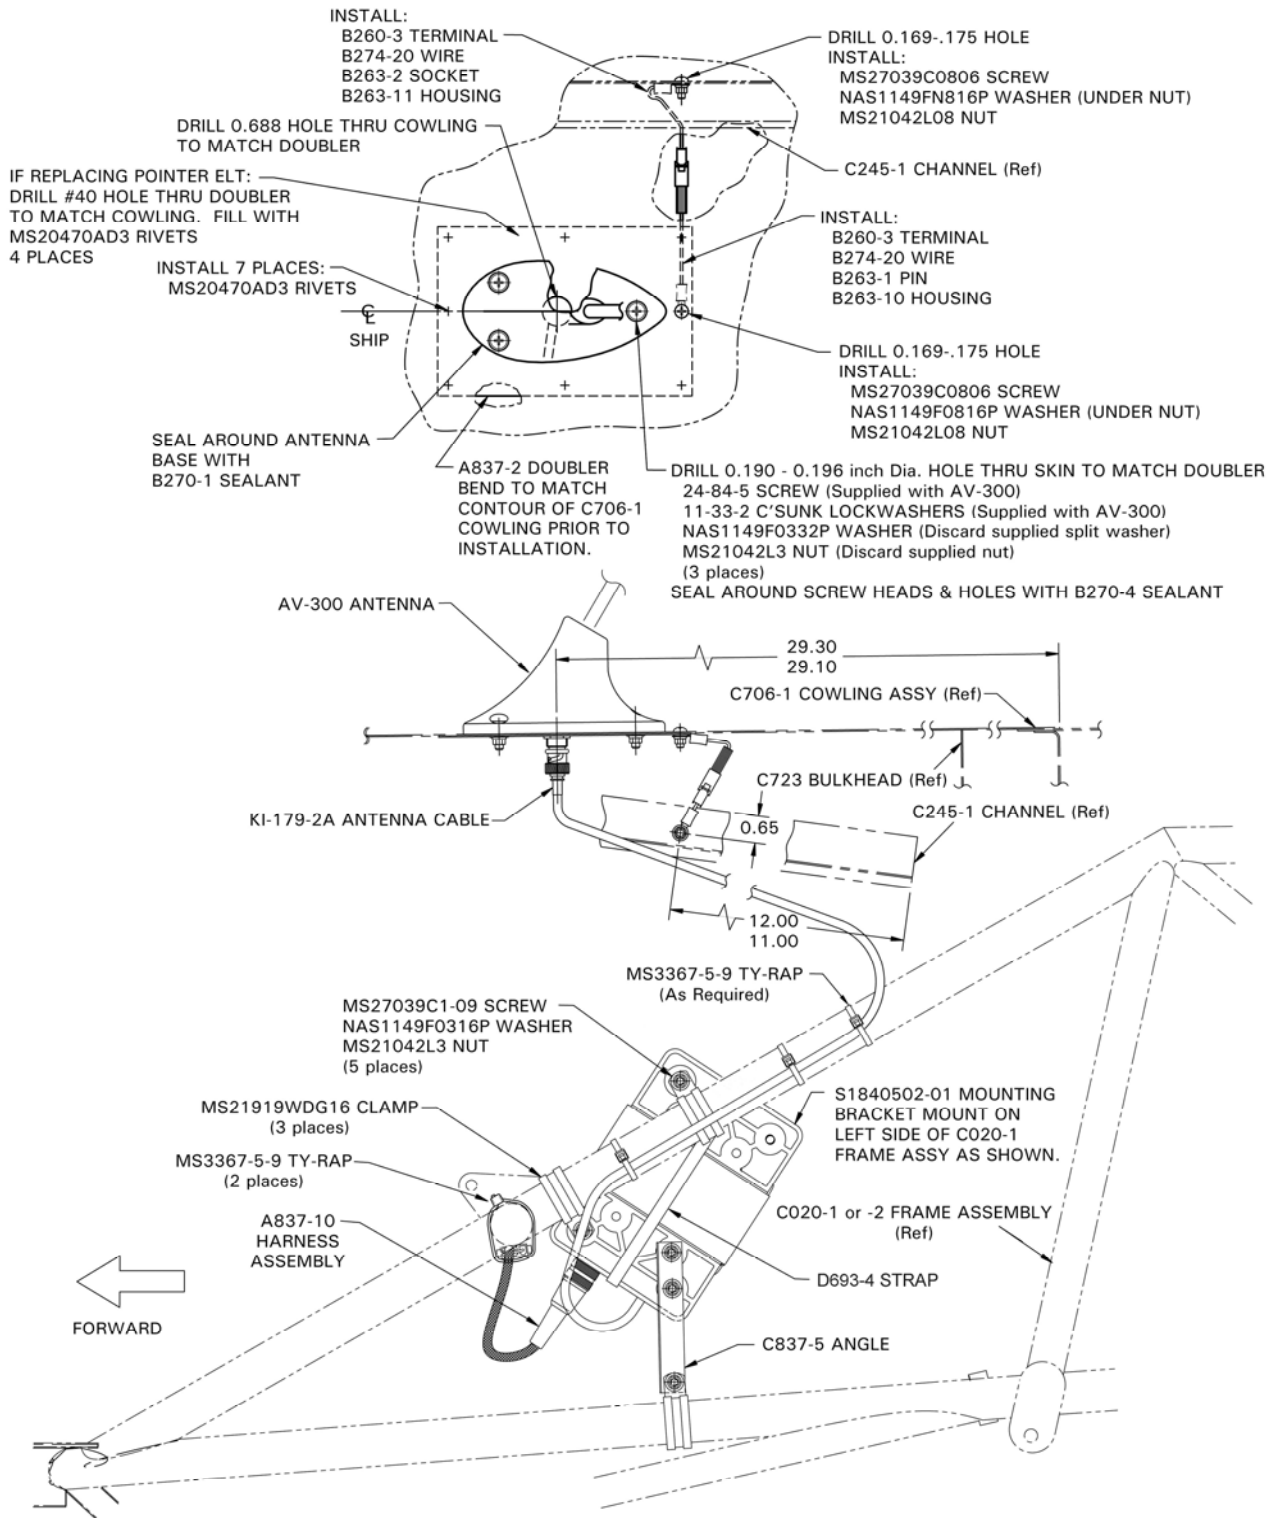
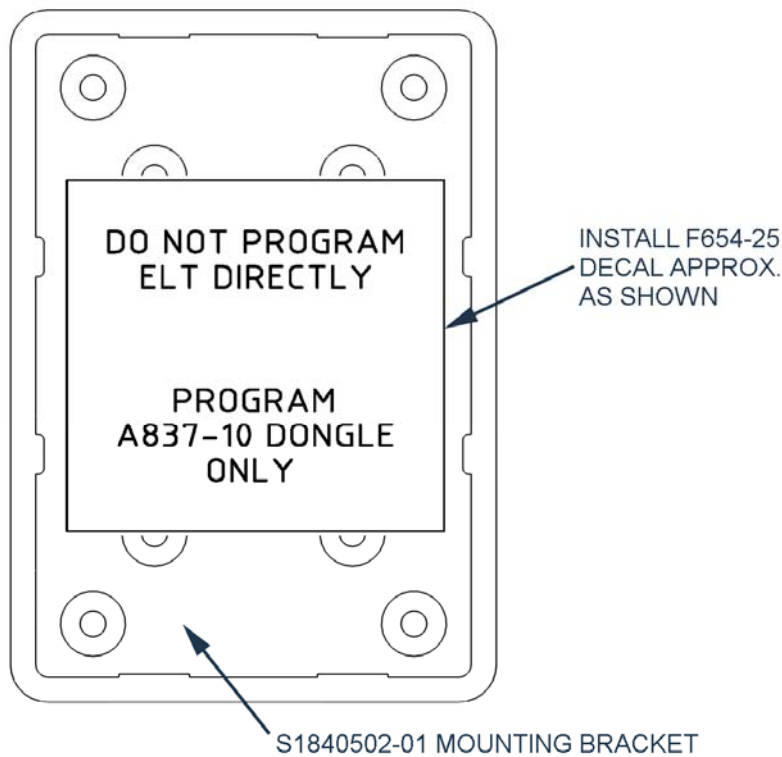

FIGURE 3 ELT AND ELT ANTENNA INSTALLATION
FIGURE 5 F654-25 DECAL INSTALLATION
7. Install S1840502-01 ELT mounting bracket using C837-5 angle, clamps, and hardware per Figure 3. Affix F654-25 decal onto face of bracket per Figure 5.
13. Reference Figure 3. Position A837-2 doubler on C706-1 tailcone cowling interior and bend doubler to match cowling contour. Drill thru doubler's pilot holes with #40 drill and secure doubler to cowling with a sheet fastener as each hole is drilled. For cowling having rivet holes from a previously installed ELT antenna, align doubler's forward pilot holes with existing holes in cowling, secure with sheet fasteners, and additionally match drill A837-2 doubler thru non-aligning holes in cowling. Using doubler as a template, match drill center 0.688-inch diameter hole and three surrounding 0.190-inch diameter holes in C706-1 cowling. Remove doubler and deburr cowling and doubler. Attach doubler to cowling using 7, or 11, MS20470AD3-4 rivets. Fabricate and install antenna doubler-to-airframe ground wire using supplied B274-20 wire, connectors, and hardware, or re-use similar wire from previous ELT antenna installation.
14. Discard gasket supplied with AV-300 antenna. Install AV-300 antenna in the 0.688-inch diameter hole per Figure 3. Seal around base with B270-1 sealant. Seal over screw heads and holes with B270-4 sealant. Install tailcone cowling.
15. Reference Figure 3. Connect KI-179-2A antenna cable to antenna, route cable to ELT mounting bracket, and secure cable to frame with ty-raps. Connect antenna doubler ground wire and secure wire with ty-raps as required.